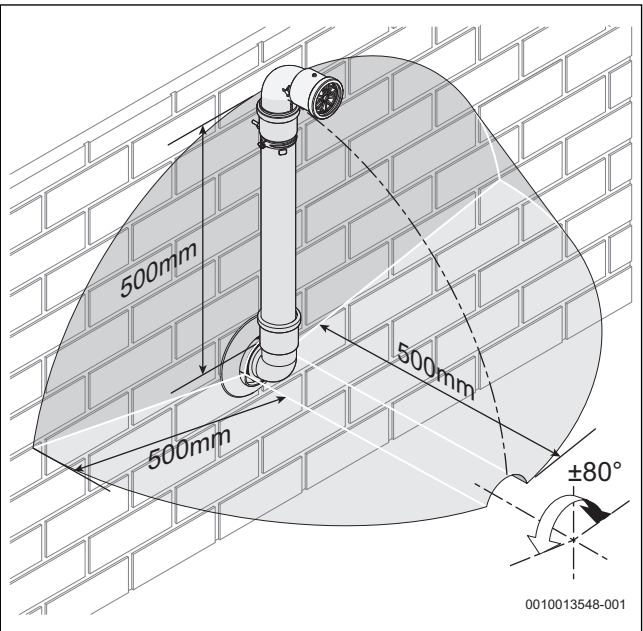

Fig. 25 Terminal exclusion zone
- Do not terminate the plume management inside the terminal exclusion zone (shaded area) shown in figure 25.